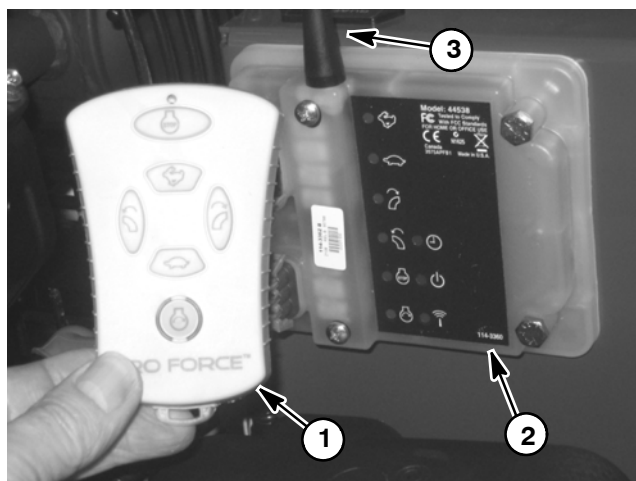

Figure 15
NOTE: Machines with a single channel controller can be identified by the external antenna on the control module (Fig. 15).
The remote transmitter is a solid state electrical device that sends radio frequency (RF) signal inputs to the machine control module for control of machine electrical operation (Fig. 15). The remote transmitter has sufficient range to send an RF signal to the control module from the tow vehicle operator position.